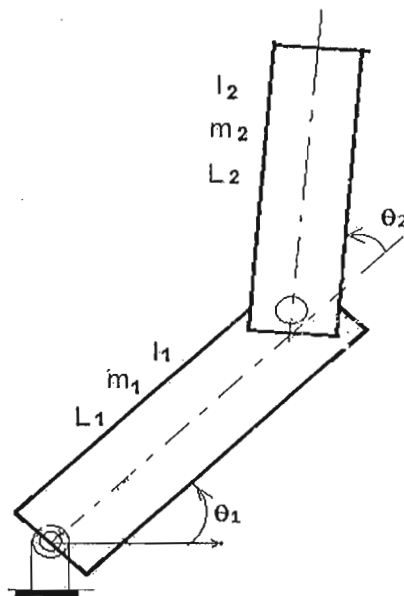

Fig. Q7
7. A 2-DOF robotic manipulator is shown in Fig. Q7. Using the Lagrangian equations derive the equation of motion of the manipulator in matrix form. Assume that the centre of mass of each link is at the centre of the link. Following are respectively the moments of inertia, masses, lengths and angular displacements of the links: I_1 & I_2 , m_1 & m_2 , L_1 & L_2 and θ_1 & θ_2 . Also write the equation for effective moments of inertia.